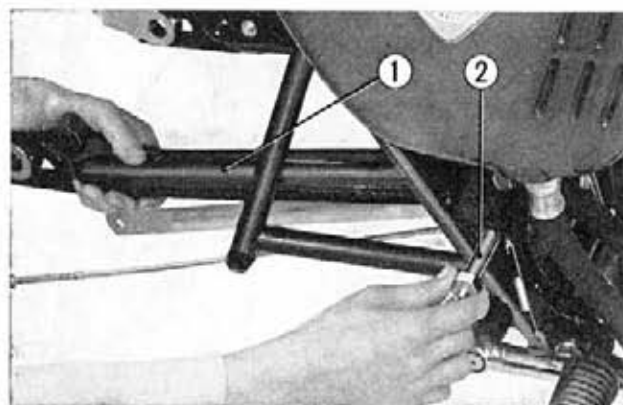

Fig. 12-8
4. Unscrew the rear fork pivot nut and bolt, and then separate the rear fork from the frame. The rear fork side washer and the pivot collar can be removed. (Fig. 12-8)